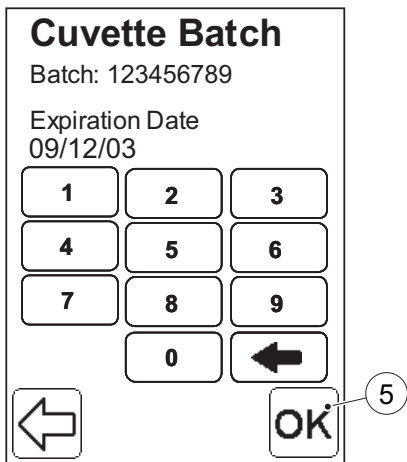
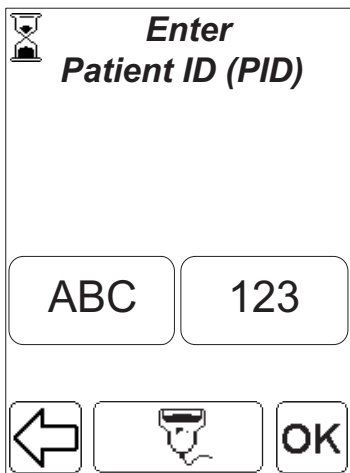

FIGURE 4-3
FIGURE 4-4
- d) If Cuvette Batch No. requirement is set to *Entry required* (see 3.4.1 *General Settings*), and the Cuvette Batch No. is entered via the Barcode Scanner using the barcode from the Cuvette vial, the expiration date is automatically entered, and *FIGURE 4-4* will be displayed. Otherwise *FIGURE 4-3* will be displayed.